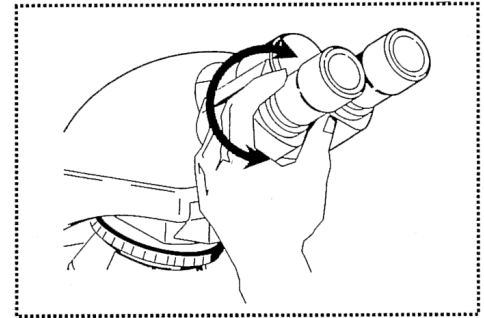

Fig. 8
b. Diopter adjustment (Fig. 8)
7.4 Replacement of fuse (shown in Fig. 8)